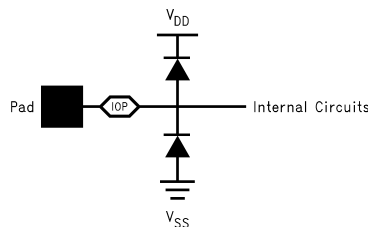

Figure 2.
- (1) To ensure accuracy, it is required that $|V_{DDA} - V_{DDIO}| \leq 100$ mV and separate bypass capacitors are used at each power supply pin.
- (2) With the test condition for $2 V_{P-P}$ differential input, the 10-bit LSB is 1.95 mV.
- (3) Typical figures are at $T_A = T_J = 25^\circ C$ and represent most likely parametric norms. Test limits are specified to Texas Instrument's AOQL (Average Outgoing Quality Level).
- (4) The analog inputs are protected as shown below. Input voltage magnitude up to 500 mV beyond the supply rails will not damage this device. However, input errors will be generated if the input goes above V_{DDA} or V_{DDIO} and below V_{SSA} or V_{SSIO} . See Figure 2
- (5) The input bandwidth is limited using a capacitor between V_{IN-} and V_{IN+} .
- (6) V_{COM} is a typical value, measured at room temperature. It is not specified by test. Do not load this pin.
- (7) I_{DDIO} is the current consumed by the switching of the output drivers and is primarily determined by load capacitance on the output pins, the supply voltage, V_{DR} , and the rate at which the outputs are switching (which is signal dependent). $I_{DR} = V_{DR} \times (C_0 \times f_0 + C_1 \times f_1 + C_2 \times f_2 + \dots + C_{11} \times f_{11})$ where V_{DR} is the output driver supply voltage, C_n is the total load capacitance on the output pin, and f_n is the average frequency at which the pin is toggling.
- (8) Power consumption includes output driver power. ($f_{IN} = 0$ MHz).
(1) The analog inputs are protected as shown below. Input voltage magnitude up to 500 mV beyond the supply rails will not damage this device. However, input errors will be generated if the input goes above V_{DDA} or V_{DDIO} and below V_{SSA} or V_{SSIO} . See Figure 2
(2) Optimum dynamic performance will be obtained by keeping the reference input in the +1.2V.
(2) Timing specifications are tested at TTL logic levels, $V_{IL} = 0.4V$ for a falling edge, and $V_{IH} = 2.4V$ for a rising edge.